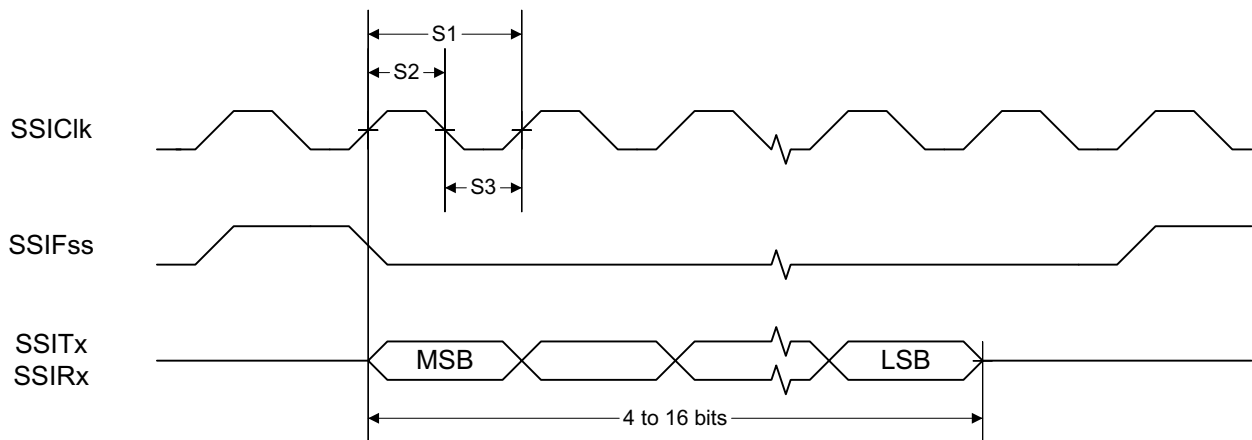
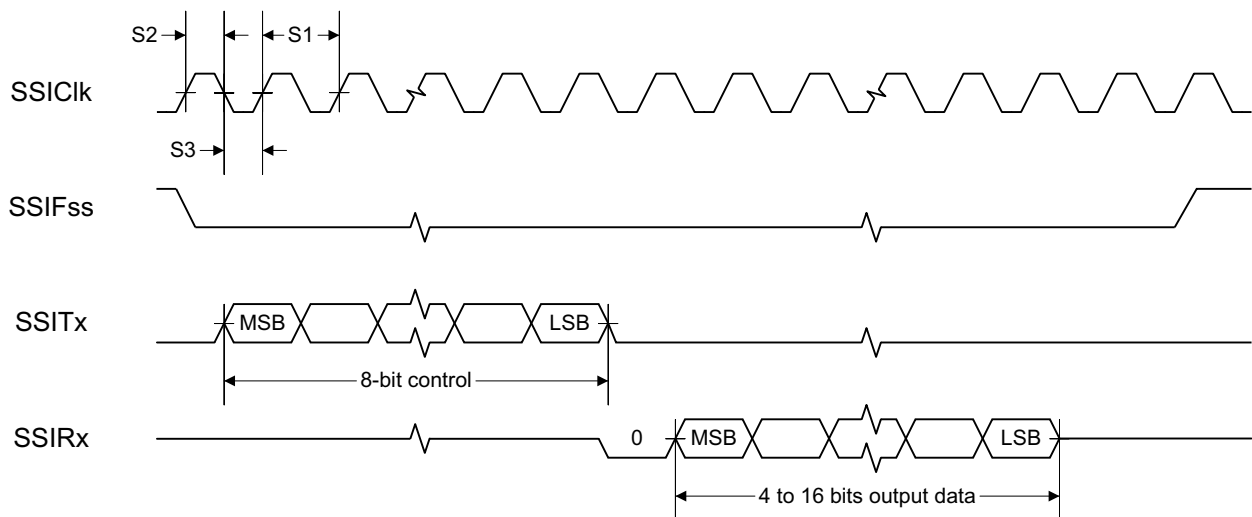
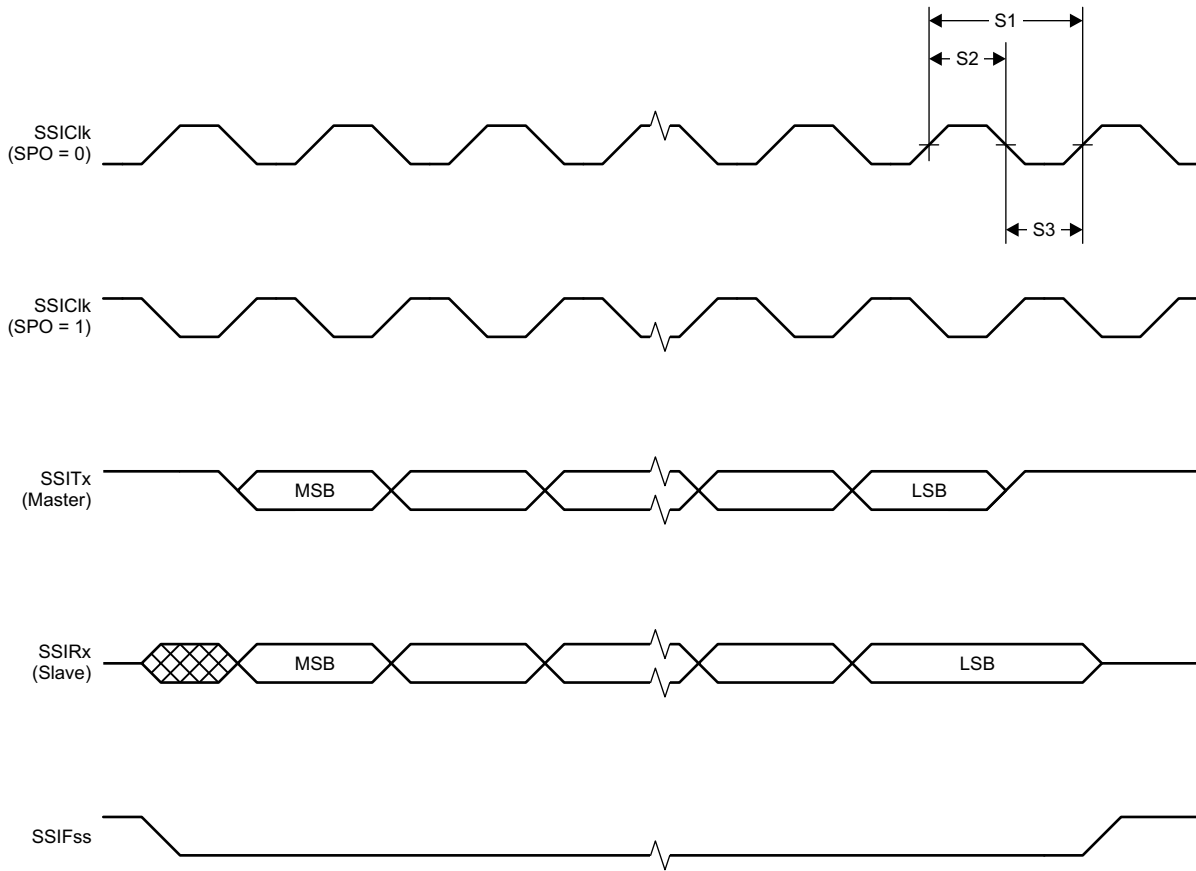

Figure 5-1. SSI Timing for TI Frame Format (FRF = 01), Single Transfer Timing Measurement
Figure 5-2. SSI Timing for MICROWIRE Frame Format (FRF = 10), Single Transfer
Figure 5-3. SSI Timing for SPI Frame Format (FRF = 00), With SPH = 1
(1) Refer to SSI timing diagrams Figure 5-1, Figure 5-2 and Figure 5-3.
(2) When using the TI-provided Power driver, the SSI system clock is always 48 MHz.